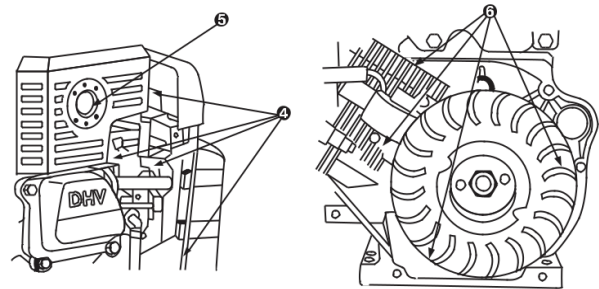

Figure-15
- Every 100 hours or every season, remove the starter guard and clean the area shown in Figure-15.